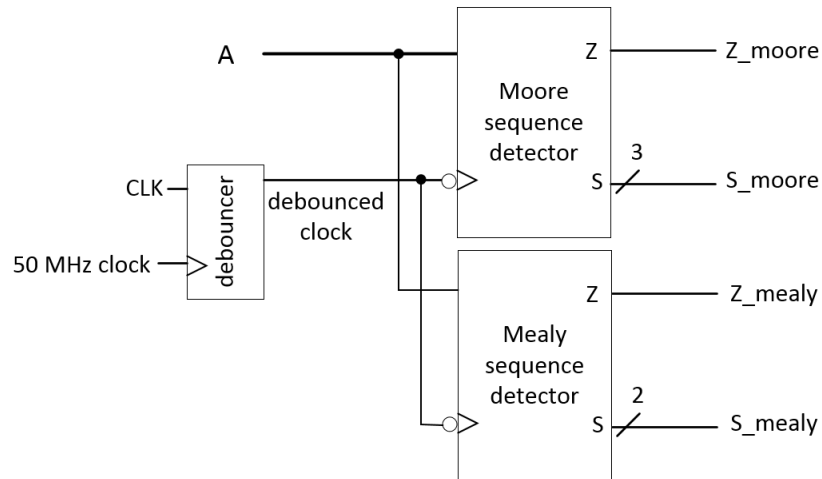

Figure 1: A 1010 sequence detector FSM implemented as both a Moore and Mealy style machine.
The second part of the lab will have you implementing the sequence detector (sequence = '1010') FSM as both a *Moore* and *Mealy* machine using *procedural* SV. You will compare the operation of the Moore and Mealy machine, as shown in Fig. 1. Use a *debounced* push-button as your FSM clock.
- 3.1.3 Create a SV file named “machineComparison.sv” that contains one SV **module** named machineComparison. Write **structural** SV to combine the two FSM modules together as shown in Fig. 1.